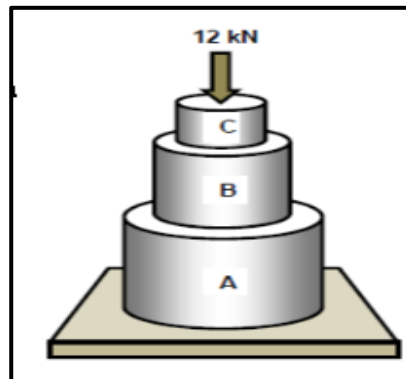

FIGURE 4.11
- (1)
4.11 A compressive test needs to be done on a round stepped shaft, shown in FIGURE 4.11 below.